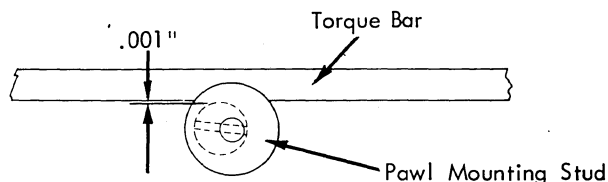

FIGURE 102. Pawl Mounting Stud Adjustment
3. Pawl Mounting Stud - Rotate the pawl mounting stud so that it clears the escapement torque bar by .001" at the closest point along the writing line (Fig. 102) Keep the high part of the eccentric toward the left so that the force of the torque bar will tend to tighten the stud instead of loosen it.